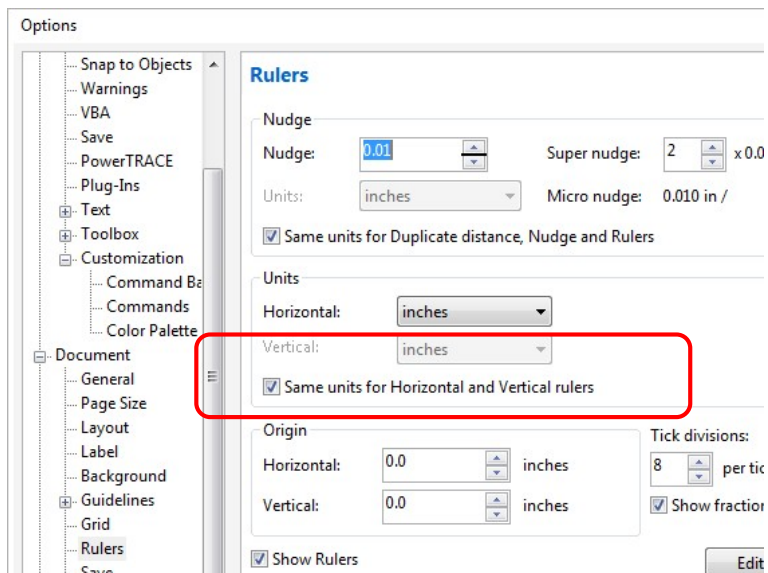

Figure A3-2
2. Please **DO NOT** make any changes to the “Origin” section when you choose to add registration marks by page size as indicated below otherwise the position of the marks will be changed (please see Figure A3-2).